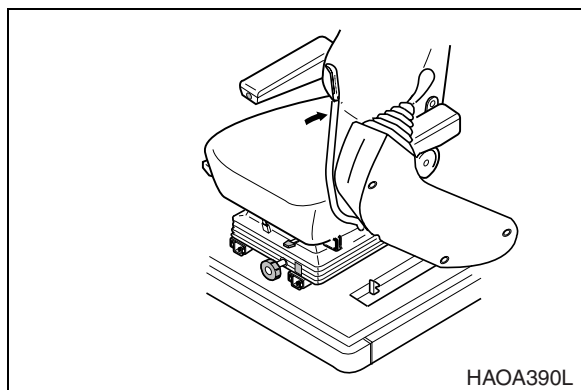

Figure 1
When leaving operator's seat, set the safety lever to "LOCK" (Figure 1) position, if not a serious accident could occur by accidentally moving the travel or work levers (joysticks).
1. Set safety lever on "LOCK" (Figure 1).